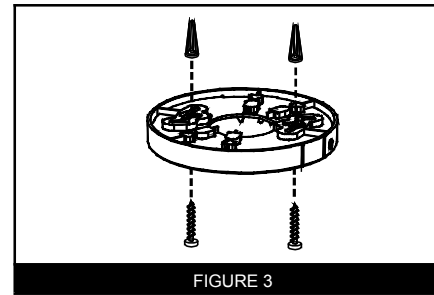

FIGURE 3
5. Insert the plastic screw anchors (in the plastic bag with screws) into the holes. Tap the screw anchors gently with a hammer, if necessary, until they are flush with the ceiling or wall. (see Figure 3).